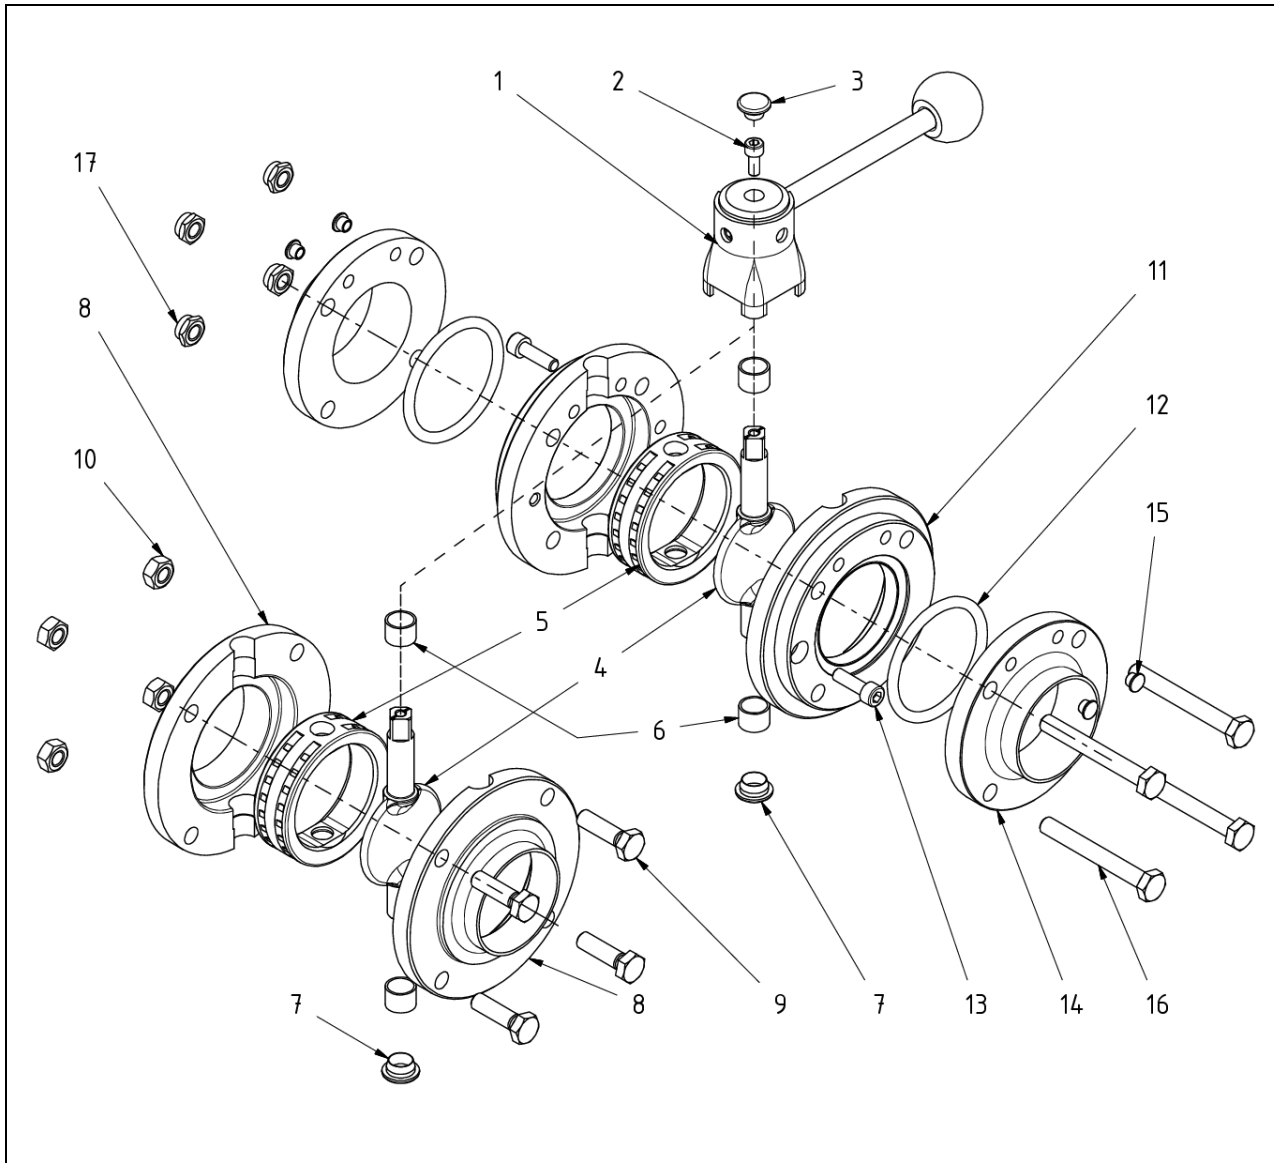

Fig. 6-1: Structure: Butterfly Valve with Handle
- Remove the blanking plug (Fig. 6-1, item 3).
- Remove the socket-head screw (Fig. 6-1, item 2).
- Pull out the entire “handle” assembly unit (Fig. 6-1, item 1) in the direction of the axis.
- Remove the bolt group (Fig. 6-1, item 9).
- Separate the flanges (Fig. 6-1, item 8).
- Remove the valve disc (Fig. 6-1, item 4) together with the gasket (Fig. 6-1, item 5) and bushings (Fig. 6-1, item 6) from the flange.
- Slide the bushings (Fig. 6-1, item 6) off the shafts of the valve disc and pull the short shaft of the valve disc (Fig. 6-1, item 4) out of the hole in the gasket (Fig. 6-1, item 5), and then pull the long shaft.
- Check the gasket (Fig. 6-1, item 5) for damage.
- Clean the valve disc (Fig. 6-1, item 4) including the shafts, and lubricate the gasket (Fig. 6-1, item 5) in the bearing shaft hole using approved grease (Unisilikon 641, e.g. from Klüber).
- Insert the long shaft of the valve disc (Fig. 6-1, item 4) into the hole in the gasket (Fig. 6-1, item 5).
- Press the gasket (Fig. 6-1, item 5) together and pull it over the short shaft.
- Slide the bushings (Fig. 6-1, item 6) over the shafts of the valve disc (Fig. 6-1, item 4).
- Insert the valve disc (Fig. 6-1, item 4) with the gasket attached to it into the bearing shaft hole of the flange (Fig. 6-1, item 8).
- Carefully place the counter flange on the flange without damaging the gasket (Fig. 6-1, item 5).
- Set the valve disc (Fig. 6-1, item 4) to the “Closed” position.
- Place the handle (Fig. 6-1, item 1) on the square of the valve disc.
- Turn the hand lever so that the through hole is facing the valve disc plate. To secure the “handle” assembly unit in place, insert the socket-head screw (Fig. 6-1, item 2) and tighten it firmly.
- Seal up the hole in the handle using the blanking plug (Fig. 6-1, item 3).
- Insert the valve disc (Fig. 6-1, item 4) with the gasket (Fig. 6-1, item 5) on it and the bushing (Fig. 6-1, item 6) the bearing shaft hole on the inner flange (Fig. 6-1, item 11). Make sure that the long valve disc shaft with the square section is pointing in the direction of the two fastening holes for the holding bracket.
- Carefully place the counter flange on the flange without damaging the gasket (Fig. 6-1, item 5) and screw them both in place using the socket-head screws (Fig. 6-1, item 13). Make sure that all the holes for fastening the holding bracket in place are aligned.
- Bolt the valve and the outer flanges together using the hexagonal bolts (Fig. 6-1, item 16) and hexagonal nuts (Fig. 6-1, item 17).
- Place the handle (Fig. 6-1, item 1) on the square section of the valve disc and fix it in place using the socket-head screw (Fig. 6-1, item 2).